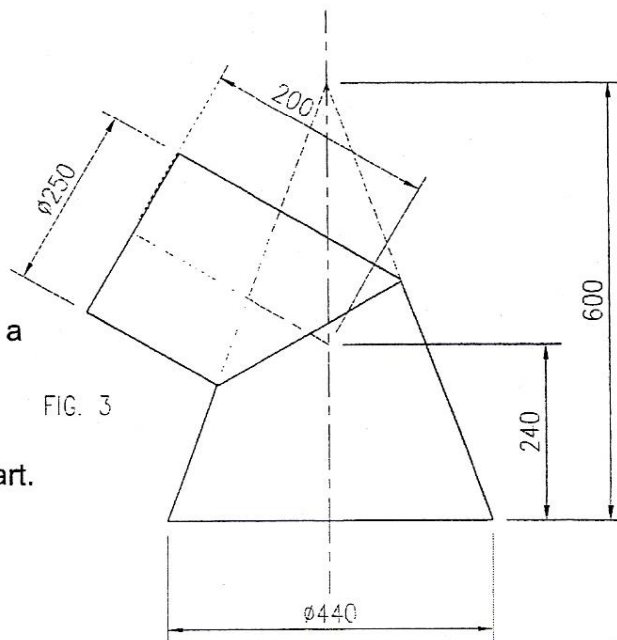

Figure 1 - Common Central Sphere
Sample exercise - Figure 1.
1. Fig.1 shows the elevation of a revolving cowl.
Figure 1 gives excellent examples of the application of the CCS.